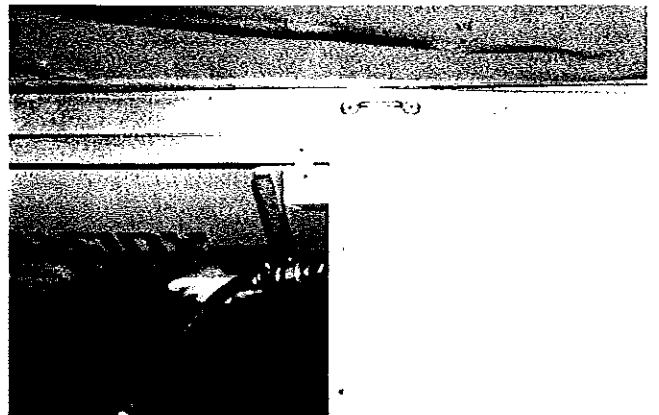

**FIGURE 35**
- B. Grasp the towel bar and raise the stove module until the bottom of the stove box clears the galley top and slide approximately 6". See Figure 35.